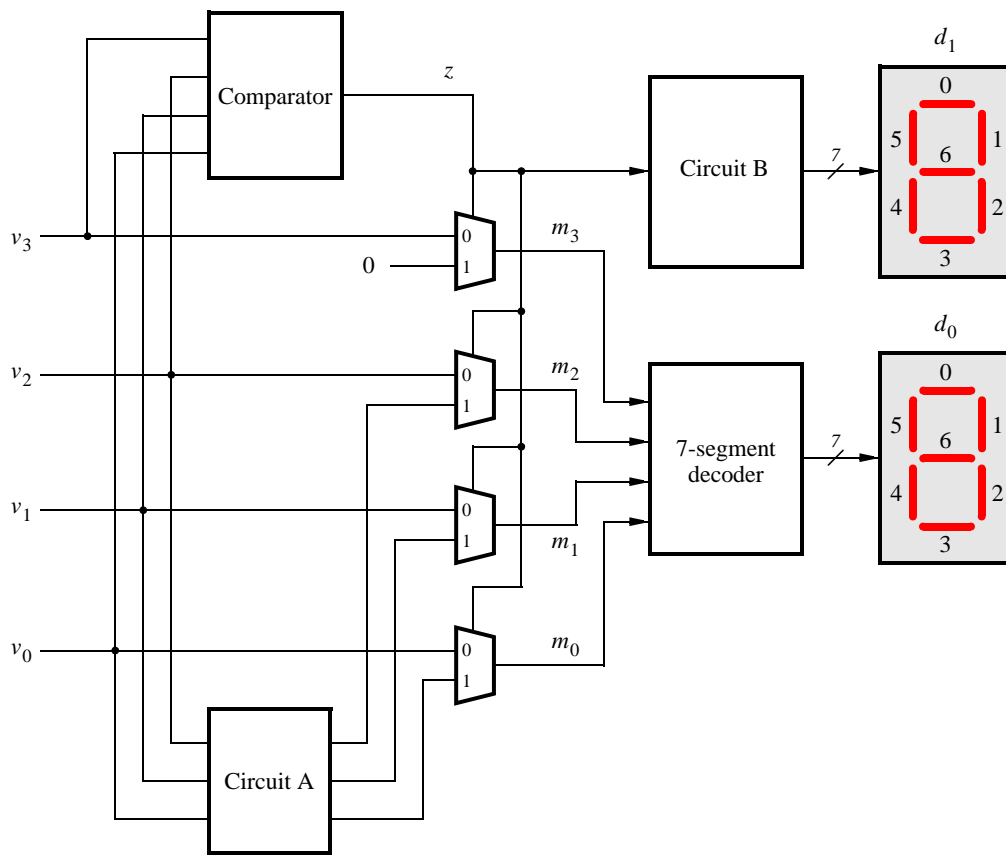

Figure 1: Partial design of the binary-to-decimal conversion circuit.
You are to design a circuit that converts a four-bit binary number  $V = v_3v_2v_1v_0$  into its two-digit decimal equivalent  $D = d_1d_0$ . Table 1 shows the required output values. A partial design of this circuit is given in Figure 1. It includes a comparator that checks when the value of  $V$  is greater than 9, and uses the output of this comparator in the control of the 7-segment displays. You are to complete the design of this circuit by creating a VHDL entity which includes the comparator, multiplexers, and circuit *A* (do not include circuit *B* or the 7-segment decoder at this point). Your VHDL entity should have the four-bit input  $V$ , the four-bit output  $M$  and the output  $z$ . The intent of this exercise is to use simple VHDL assignment statements to specify the required logic functions using Boolean expressions. Your VHDL code should not include any IF-ELSE, CASE, or similar statements.
3. Augment your VHDL code to include circuit *B* in Figure 1 as well as the 7-segment decoder. Change the inputs and outputs of your code to use switches  $SW_{3-0}$  on the DE1 board to represent the binary number  $V$ , and the displays  $HEX1$  and  $HEX0$  to show the values of decimal digits  $d_1$  and  $d_0$ . Make sure to include in your project the required pin assignments for the DE1 board.